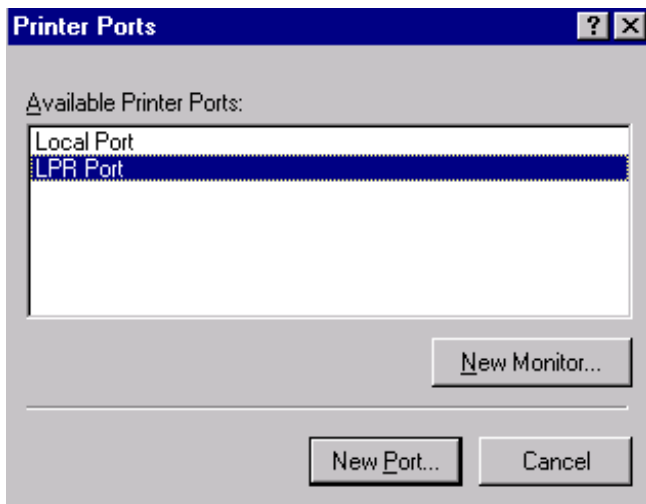

Figure 7-3
11. From the Printer Ports box as shown in Figure 7-3, select the **LPR Port**.